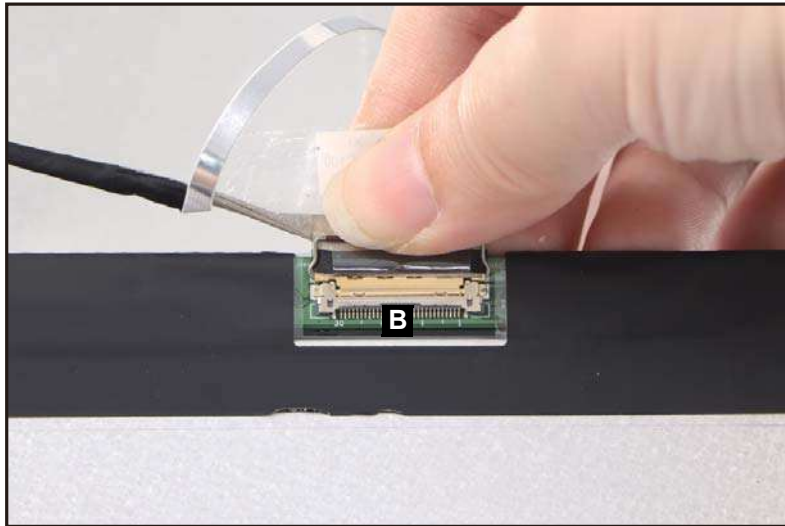

Figure 3-78. Replacing the LCD Panel
2. Place the LCD panel on a flat surface with the back side facing up and aligned properly to the bottom of the LCD cover. Then connect the LCD cable to the LCD panel connector (B) (Figure 3-78).